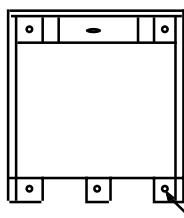

Figure 3-14. Junction Box Mounting
2. See Figure 3-14. Hold the junction box at the previously marked mounting location. Mark the mounting holes. Mark the four outside mounting holes (mounting on a flat surface), such as an I-Beam.